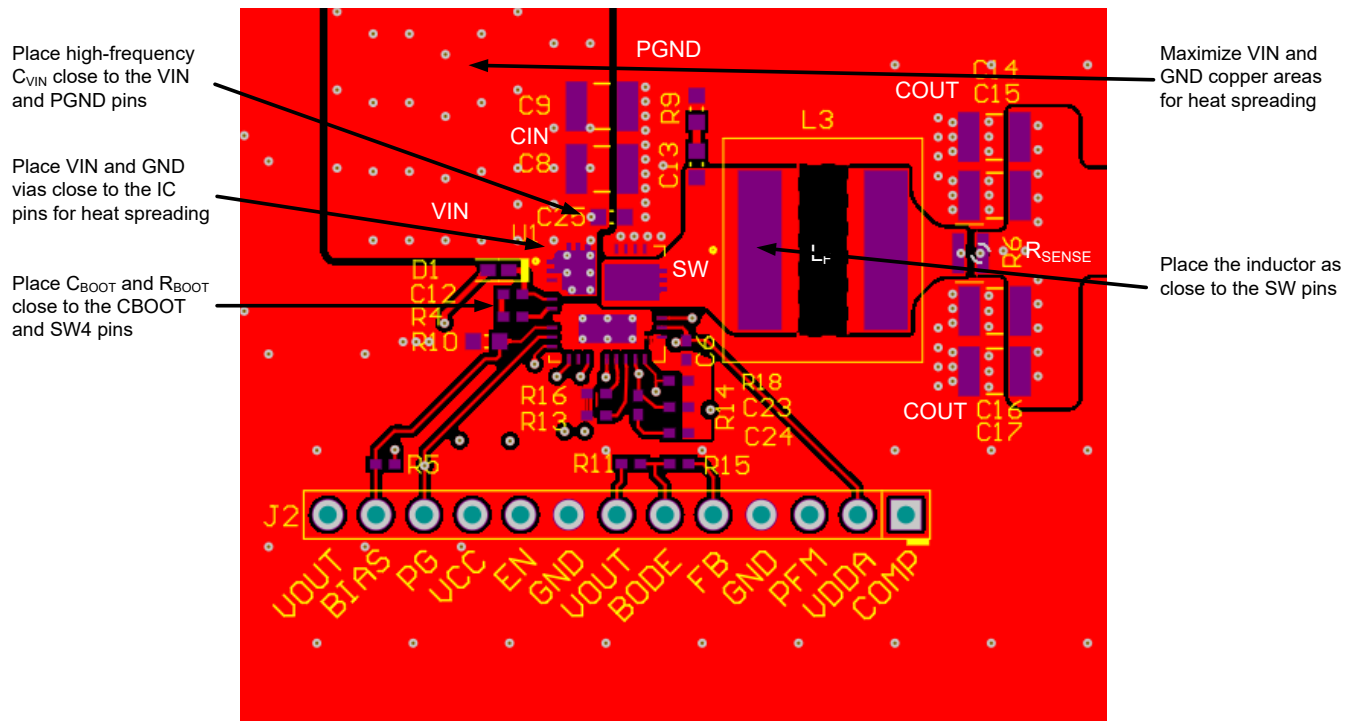

Figure 7-37. PCB Top Layer – High Density, Single-sided Design
The following list summarizes the essential guidelines for PCB layout and component placement to optimize DC/DC converter performance, including thermals and EMI signature. Figure 7-37 shows a recommended layout of the LM706A0-Q1 with optimized placement and routing of the power-stage and small-signal components.
- Use low-ESR ceramic capacitors with X7R or X7S dielectric from VIN to PGND. Place an 0402 capacitor close to VIN for high-frequency bypass as shown in Figure 7-37. Use additional 1206 or 1210 capacitors for bulk capacitance.